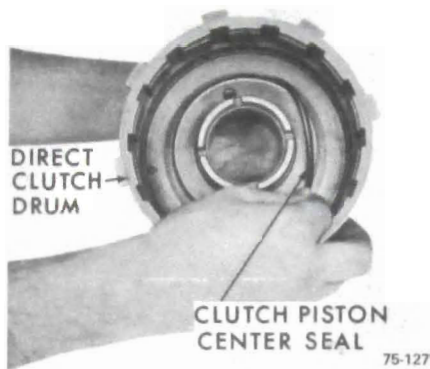

Figure 75-181
2. Install direct clutch piston center seal. See Figure 75-181.